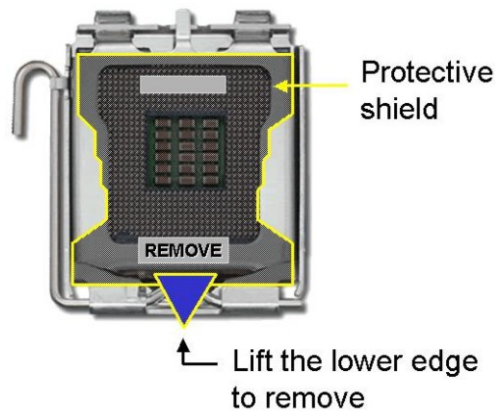

Figure 4-2: Remove the CPU Socket Protective Shield
Step 1: Remove the protective cover. Remove the black protective cover by prying it off the load plate. To remove the protective cover, locate the “REMOVE” sign and use your fingernail to pry the protective cover off. See **Figure 4-2**.